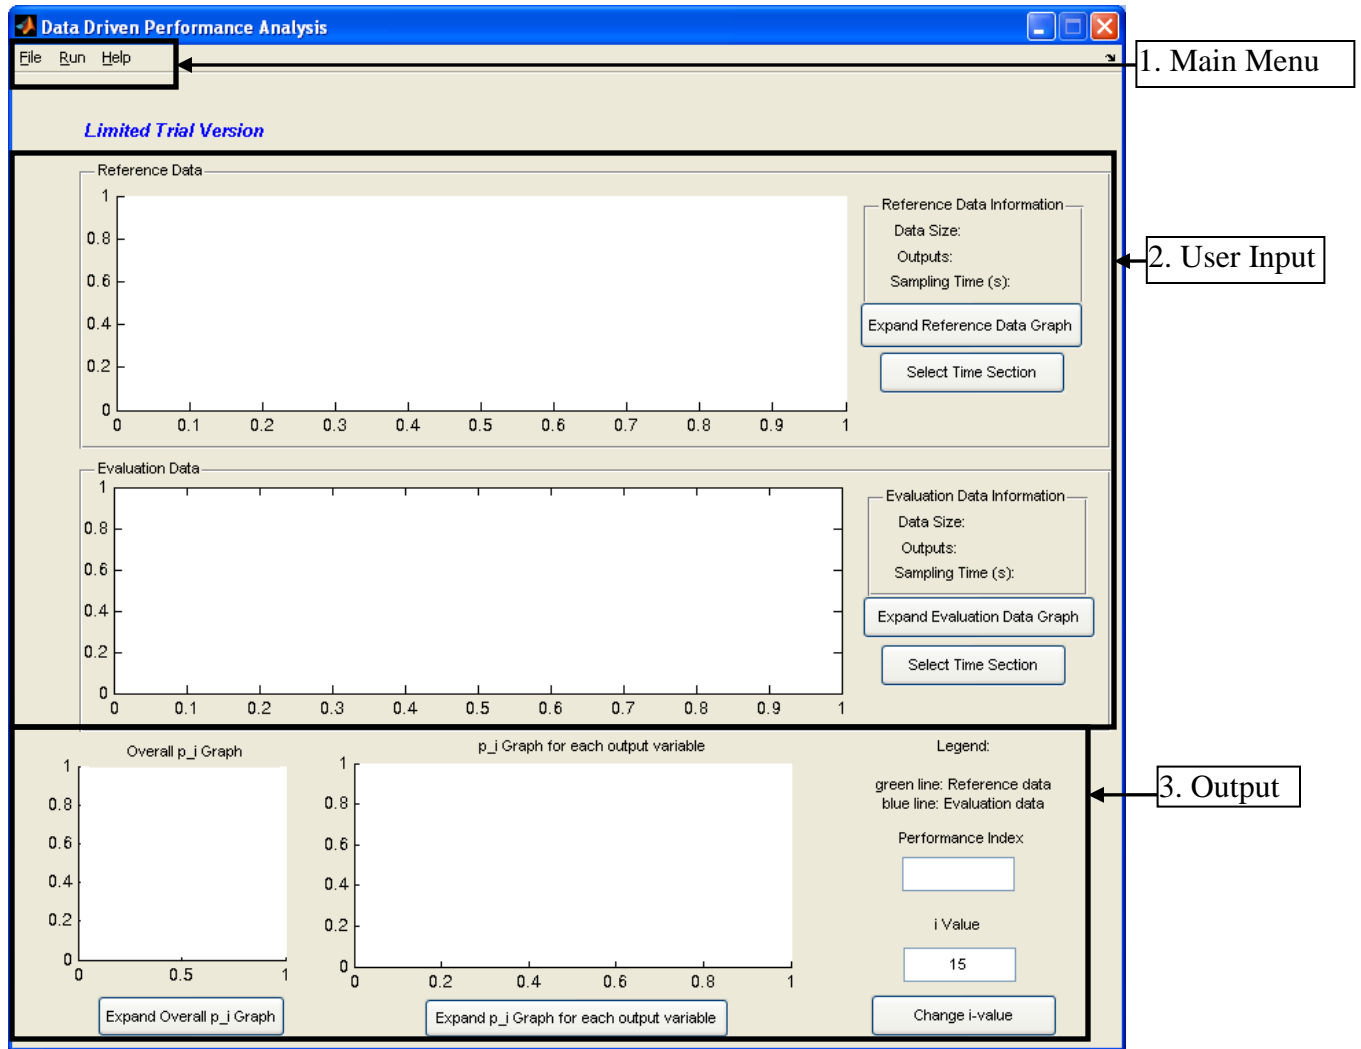
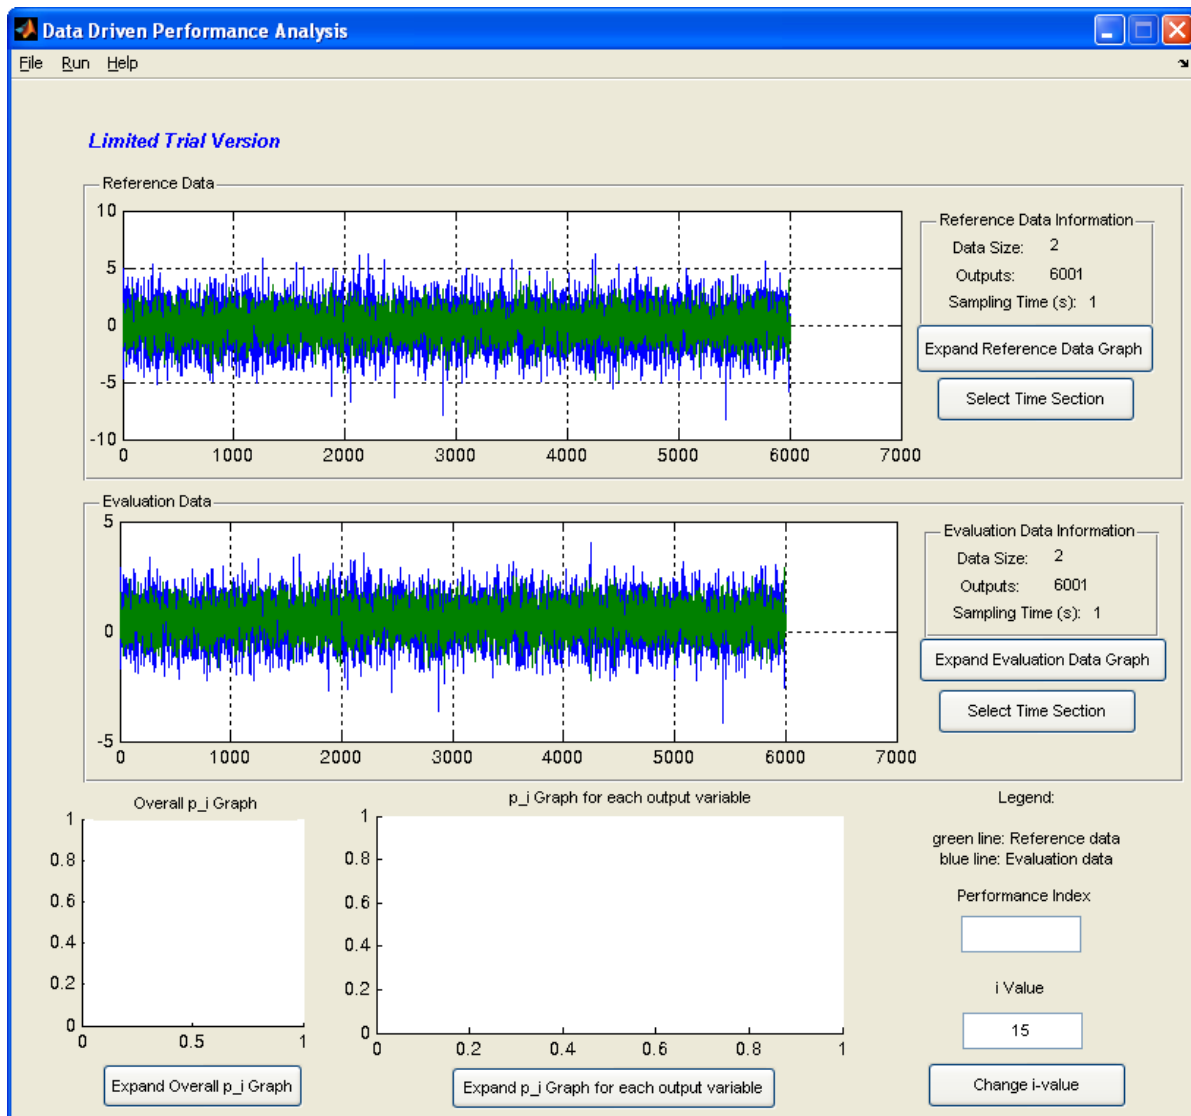

Figure 1: The Main GUI
Figure 2: Screen shot after loading the data
- 3) At the command prompt, type “>> **DataDriven**” to start the toolbox. The GUI shown in Figure 1 should appear. There are 3 main sections:
- 4) For the purpose of this quick start, we will be using the sample data provided in the zip file. Go to the “File” Menu located in the Main Menu area, which is denoted as 1 in Figure 1. Navigate to Load → Data→Reference Data to load the reference data. Alternatively, press Ctrl+D to perform the same operation. Select the file “DataFile.mat” and click “Open”. Any file that contains stores the reference data in the matrix called “Base_Data” will work. Next, the evaluation data must be selected. Go to File →Load →Data→Evaluation Data. Alternatively, press Ctrl+E. Select the file “DataEval.mat” and click “Open”. Both data files contain the closed-loop, operating data for the process. Once the data has been loaded, the GUI should look similar to that shown in Figure 2.